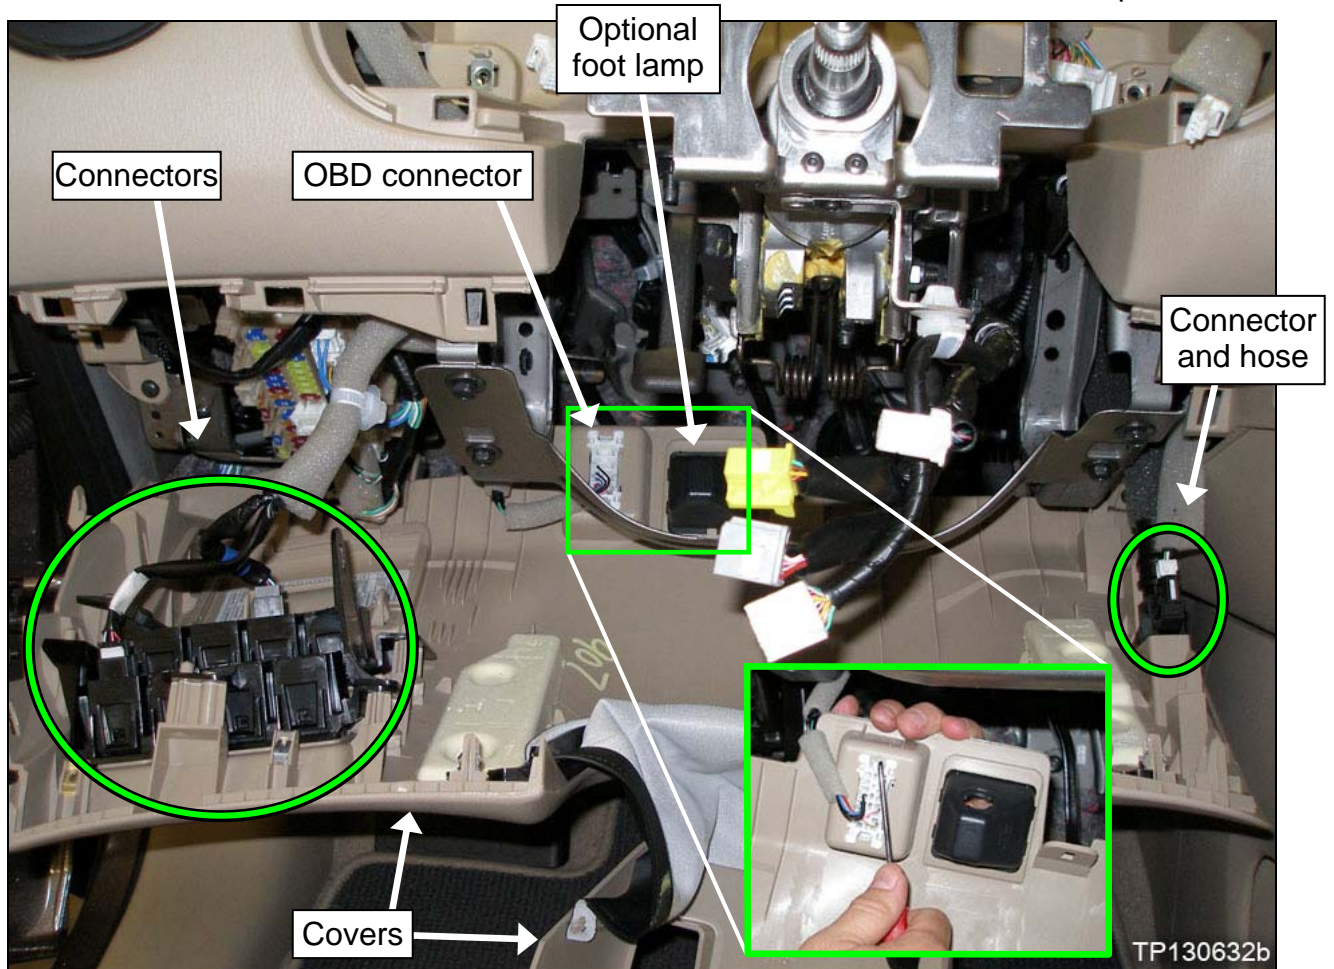

Figure 29
23. Disconnect all connectors and if equipped, the foot lamp and socket (see Figure 29).